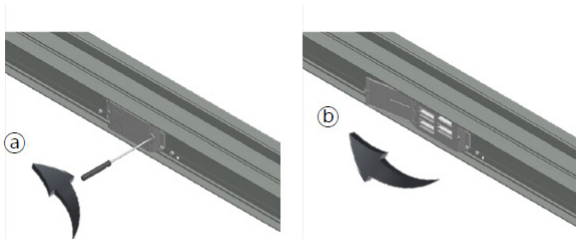

Figure 19. Busway Pre-installation
3. Unbolt the busway's PH cover and open it. (Figure 19, a, b)
5. Inspect the plug-in mold for any foreign material or moisture penetration. (Figure 19)